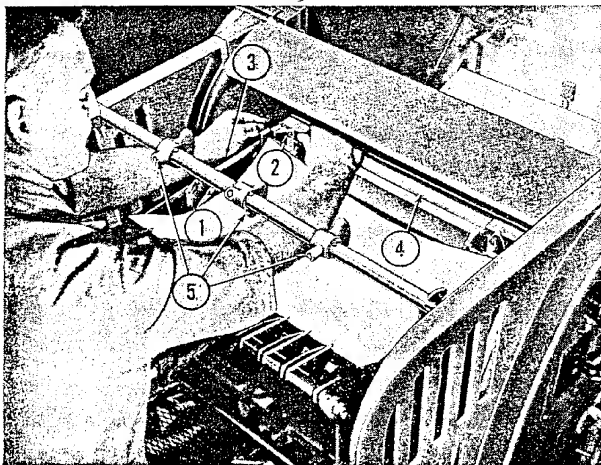

Figure 33—Setting Side and Rear Jiggers
(2) HOW TO SET DELIVERY SIDE AND REAR JOGGERS. (See figure 33.)—The side and
(b) Set the side jogger wings, (1) figure 33, according to length of sheet. Turn press ahead until sheet is dropped by delivery grippers onto delivery table. Set rear jogger wings, (2) figure 33, according to width of sheet.
(3) **DELIVERY AIR NOZZLES, SHEET STOP FINGER BAR, AND DELIVERY GRIPPERS.**—The three air blast nozzles, (5) figure 33, are provided to quickly settle the sheets down on the delivery table. The nozzles are adjustable on the air tube so that air blast may be directed as required. A separate line from the air pumps to the delivery air nozzles provides for constant air pressure. The number of nozzles used, as well as the positioning of the nozzles, is dependent upon the size of the sheet. They need only be used when running thin stock. When not in use, turn nozzles so that they face away from the delivery table.